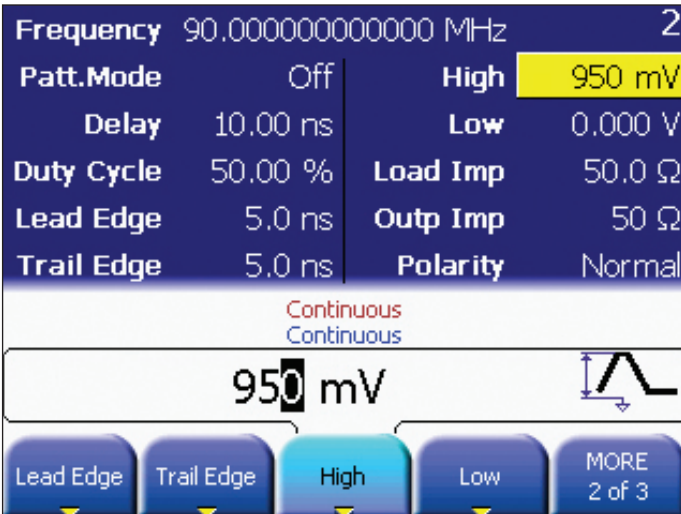

Figure 7. Step 4.
STEP 4. Set channel 2, as shown in Figure 7.